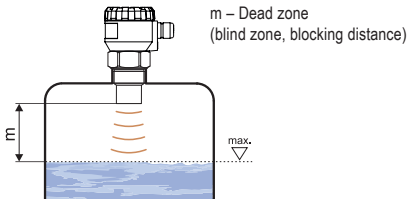

Fig. 2: Level meter dead zone
- In connection with the measurement principle, no signals **reflected** in the area immediately under the level meter can be evaluated. **The zone** (Fig. 2) determines the min. distance possible between the level meter and the highest surface level. The min. distances to the medium are given in the chapter "Specifications".